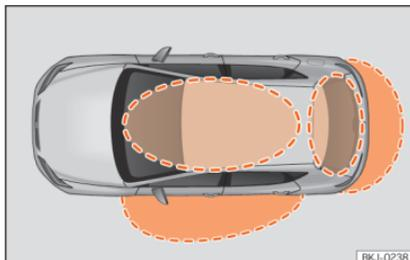
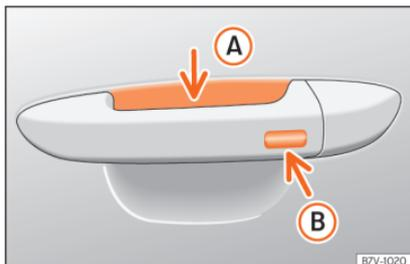

Fig. 93 Keyless Access: proximity zones.
Fig. 94 Door handle: sensor surfaces
»» Fig. 94
Keyless Access is a key-free locking and ignition system to unlock and lock the vehicle without actively using its key. To do this, all that is required is to have a valid vehicle key in the detection area where you are attempting to access the vehicle »» Fig. 93 and to touch one of the sensor surfaces on the door handles »» Fig. 94 »» **i**.
If a valid key is in the proximity of the car »» Fig. 93, the Keyless Access locking and starting system gives the key entry as soon as
- Grip the driver door handle. When you do this, you touch the sensor surface »» Fig. 94 (A) (arrow) of the handle and the vehicle unlocks.
- Touch (once) the locking sensor surface »» Fig. 94 (B) (arrow) on the driver's door handle. The door that is used must be closed.
- Touch (once) the sensor surface »» Fig. 94 (B) (arrow) on the driver's door handle. The vehicle locks with the “Safe” security system »» page 101. The door that is used must be closed.
- Touch (twice) the sensor surface »» Fig. 94 (B) (arrow) of the driver door handle to lock the vehicle without activating the “Safe” security system »» page 101.
When the vehicle is locked, the rear lid automatically unlocks on opening if there is a valid vehicle key in the proximity »» Fig. 93.
- Push the central locking button  on the remote control and touch the locking sensor surface of the driver door handle »» Fig. 94 (B) within the following 5 seconds. Do not grasp the door handle; otherwise the vehicle will not unlock. Deactivation is also possible if the vehicle is locked through the driver's door lock.
To close all the electric windows and the sunroof using the **comfort function**, keep a finger for a few seconds on the locking sensor surface »» Fig. 94 B (arrow) of the door handle until the windows and roof have closed.
The sensor surfaces on the door handles could engage if hit with a water jet or high pressure steam if there is a valid vehicle key in the proximity. If at least one of the electric windows is open and the sensor surface »» Fig. 94 B (arrow) on one of the handles is activated continuously, all windows will close.